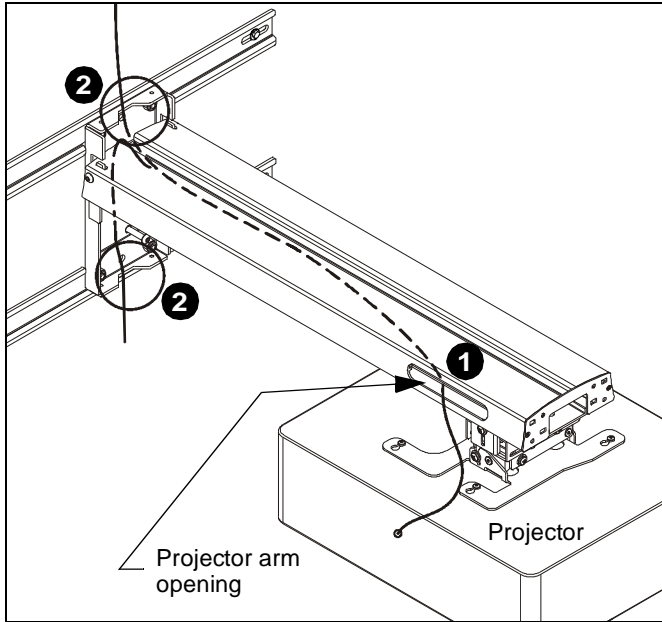

Figure 18
1. Route cables/cords from projector through opening on projector arm and route to wall. (See Figure 18)
2. Guide cables/cords from wall end of projector arm upward or downward through slots in wall plate. (See Figure 18)